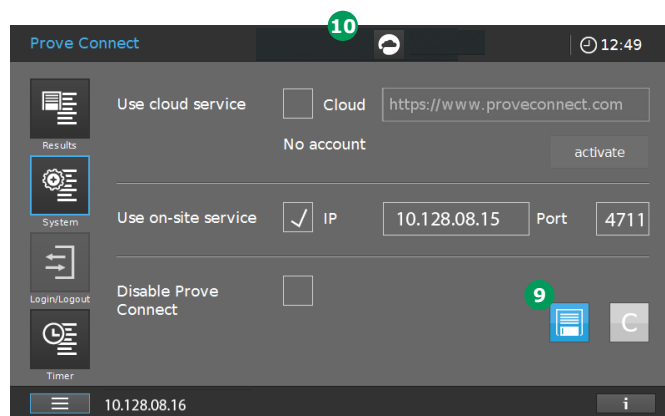

Figure 22 - Screen of Spectroquant® Prove with all network details
10. After setting all parameters (Checkmark, IP, and Port), press the save icon 9 (Figure 22).
When the connection is established the cloud icon 10 (Figure 22) appears in the instrument display.